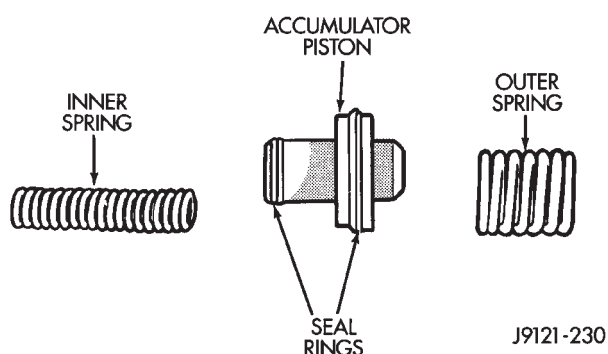

Fig. 30 Accumulator Piston Components
(3) Check condition of seals on accumulator piston (Fig. 30). Install new piston seals, if necessary.
(4) Place valve body manual lever in low (1 position) so ball on park lock rod will be easier to install in sprag.
(5) Lubricate shaft of manual lever with petroleum jelly. This will ease inserting shaft through seal in case.
(6) Lubricate seal rings on valve body harness connector with petroleum jelly.
(7) Position valve body in case and work end of park lock rod into and through pawl sprag. Turn propeller shaft to align sprag and park lock teeth if necessary. The rod will click as it enters pawl. Move rod to check engagement.